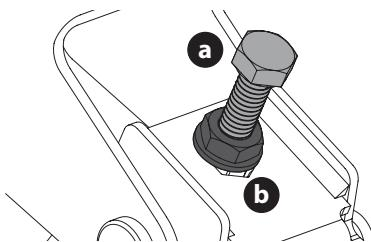

Figure 35
3. Locate the adjustment bolts (a) on the left and right side of the deck (Figure 35).
4. Loosen, but do not remove, the jam nuts (b) on the adjustment bolt. Adjust either the right or left adjustment bolt up or down as necessary until the side-to-side heights are equal (Figure 35).
(b). Tighten to 200 in-lbs (23 N-m) (Figure 35 on page 27).